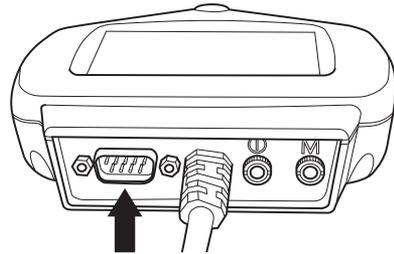

Fig.2.2.2
4. Connect i-Drive Alternative Control into the port on the bottom of the display (see Fig.2.2.2) with 9-pin connector (see Fig.2.0.1 on p6)